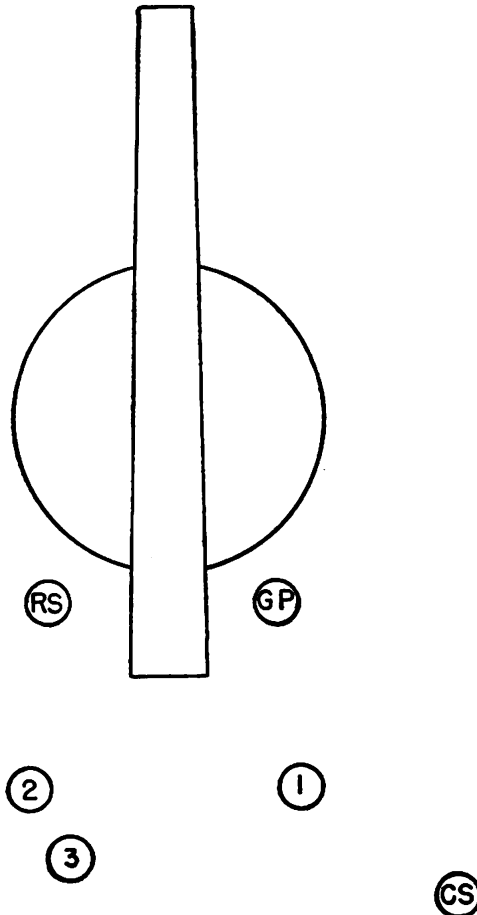

FIGURE 2.—Posts of 3-inch gun squad.
(2) Unusual events, such as misfires, which may occur during actual firing will be simulated during the drill. They should be called by the officer in charge, without prior information to the gun squad, and in such a manner as to inject realism into the drill.
Q. What are the posts of the 3-inch gun squad? *A.* See figure 2.